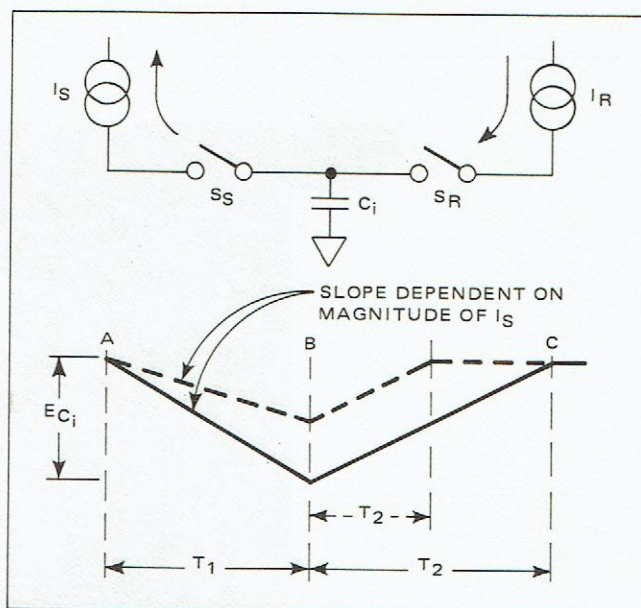

Figure 1.3 - Simplified Integrator Circuit
1.29 The analog output of the Isolator is converted to its digital equivalent by the Integrator using the dual-slope technique. Figure 1.3 shows a simplified Integrator circuit and the dual slope produced.